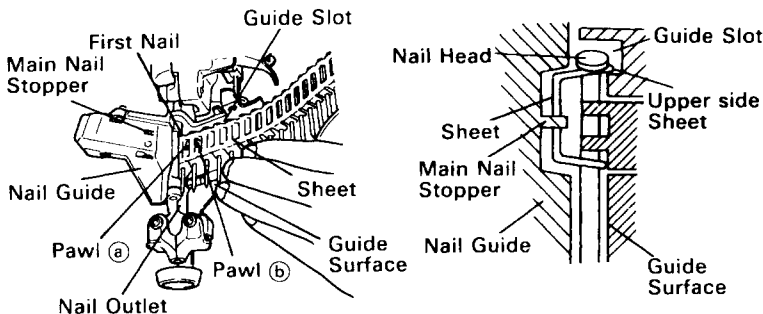

Fig. 9
(3) Loading the nails in the nail guide.
- While pressing the sheet to the guide surface, insert the first nail into the driving hole and the second nail between the pawl (a) and the pawl (b). Insert the nail so that the nails head and the upper side sheet engage the guide slot (Fig. 9).